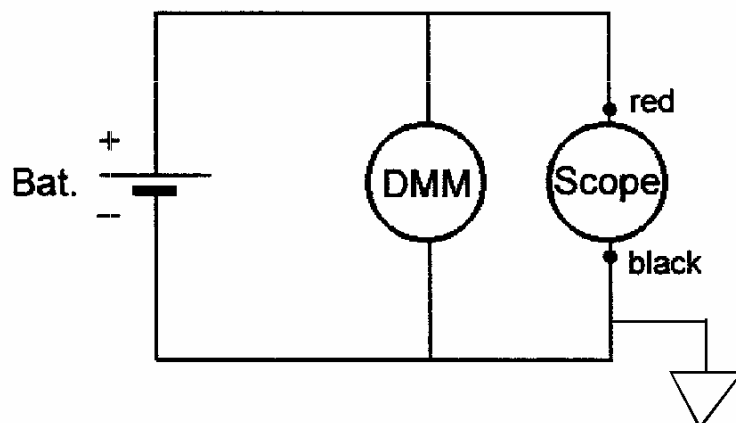

Fig. 1
1. Measure the voltage from a standard D-size battery using both the scope and the DMM as shown in the circuit of Fig. 1. If you don't have a trace on your scope, some of the zillion knobs are probably set wrong. Ask for help. Be sure the scope vertical CAL and zero are both properly set. How good are your data? Reverse the battery to get an independent second reading for each instrument, which you can use to establish “errors”.